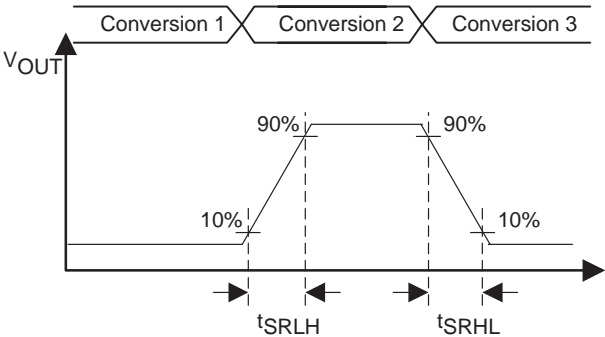

Figure 17. Slew Rate Testing
**12-bit DAC, dynamic specifications; VREF,DAC12 = AVCC, DAC12IR = 1 (see Figure 16 and Figure 17)**